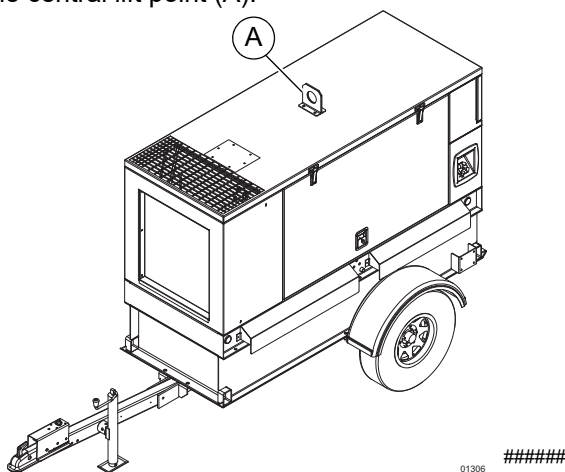

Figure 3-8. Central Lift Point
3. See Figure 3-8. Attach slings, chains, or hooks to the central lift point (A).